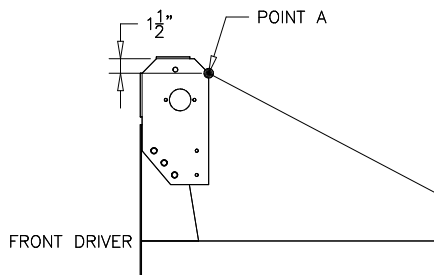
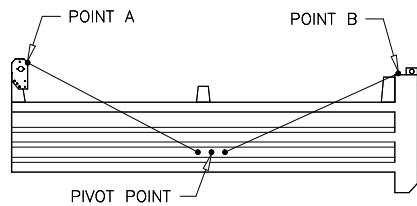
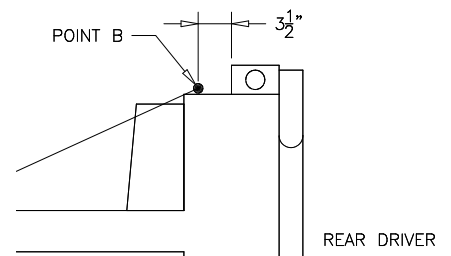

Figure 11
Figure 12
Figure 13
Procedure: Measure from Point A (see Figure 11) to a point on the lower inside rib of the box that is close to the pivot point (see Figure 12). Mark this point and record the distance as X. Using distance X, measure from Point B (see Figure 13), to a point on the lower inside rib of the box (see Figure 12). **Mark this point.** Divide the distance between the first and second mark by two and mark this point as the pivot point (see Figure 12).
Slide the rear pivot arm cross-member (F) through the rear tarp pocket. Position the rear pivot arm cross-member at Point B (see Figure 13 & 17). Slide the top pivot arm (G) into the bottom pivot arm (C). Rotate the pivot arm towards the top of the box. Insert the 1" OD. pipe on the top pivot arm into the rear pivot arm cross-member (F). Repeat for the opposite side of the box.
Adjust the rear pivot arm cross-member (F) and the top pivot arms (G) so they are at Point B (see Figure 13 & 17).